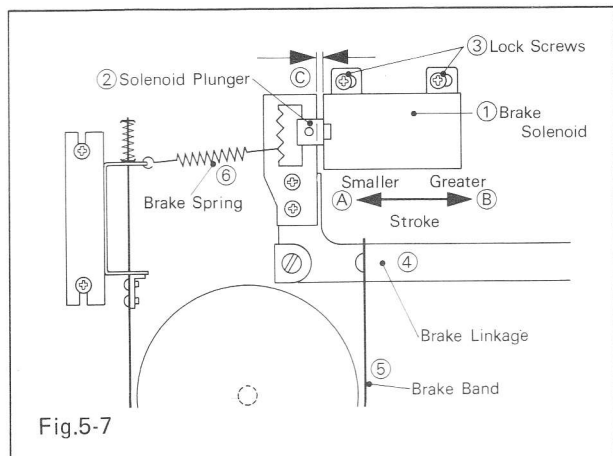

Fig.5-7
Refer to Fig. 5-7 or section 2 on page M-16.
- (1) Push the play and stop buttons alternately and check the stroke of the brake solenoid plunger ② (indicated C in Fig. 5-7).
- (2) Loosen two lock screws ③ and adjust the position of the solenoid ① so that the operating stroke of